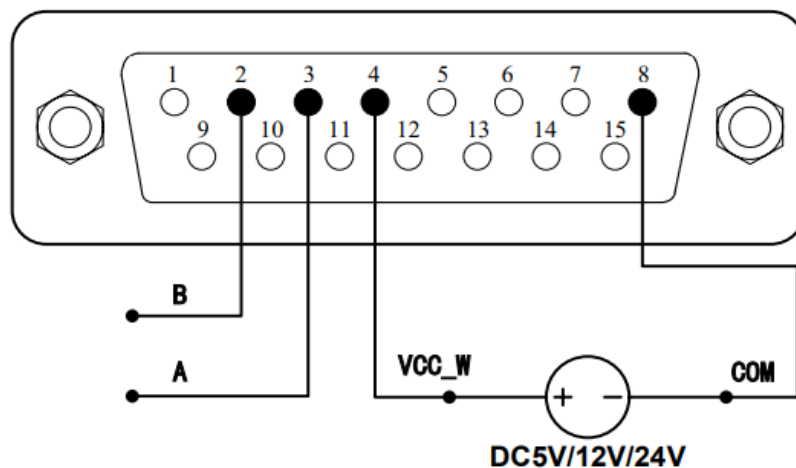
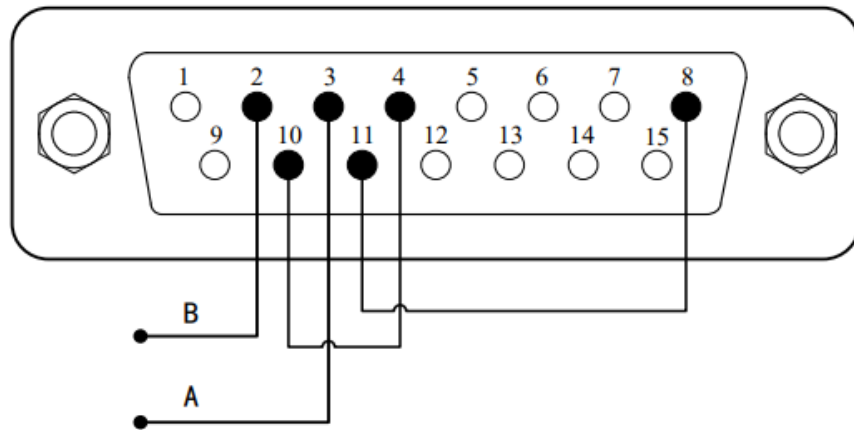

Figure 17 – shows the wiring diagram to connect RS485 when using an external power supply
Figure 18 – shows the wiring diagram to connect RS485 when using the internal power supply
2. Connect the DB15 connector according to Figure 17 if using an external power supply, and according to Figure 18 if using the internal power supply